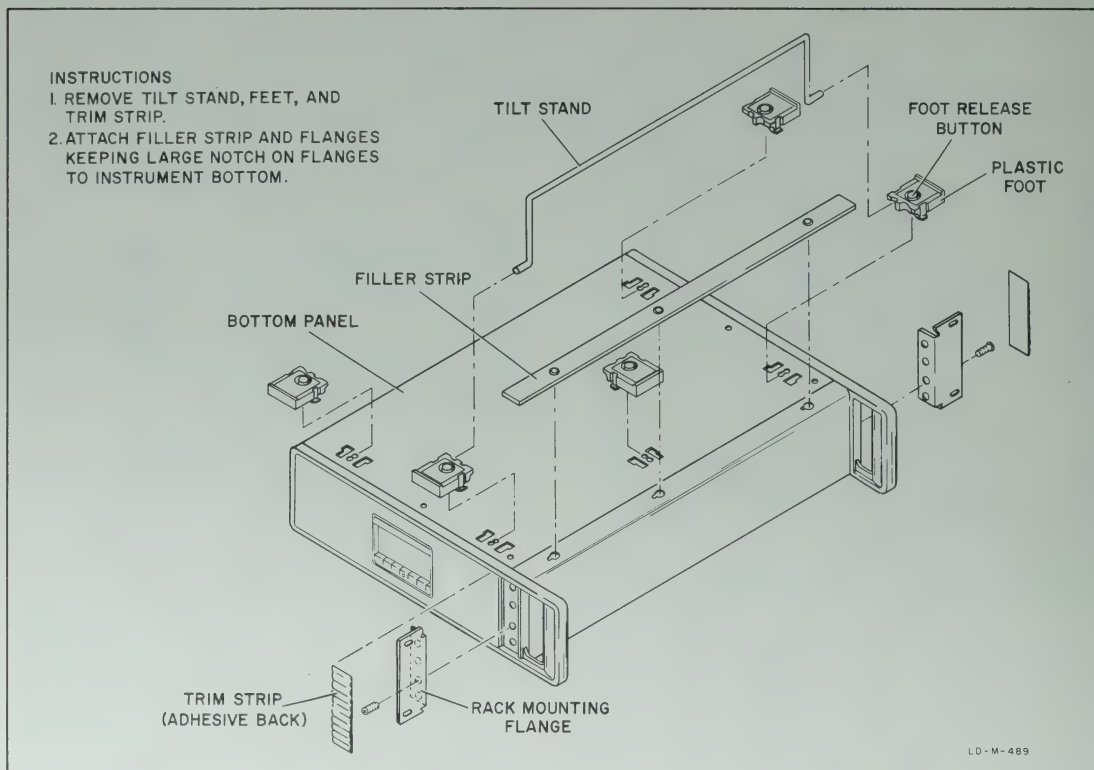

Figure 2-2. Rack Mounting
**2-12. RACK MOUNTING.** Prepare the cabinet for rack mounting as illustrated in figure 2-2. The trim strip and rack-mounting flanges are in the shipping container with the instrument. After preparation, lift instrument into place and secure mounting flanges to rack with appropriate screws. Allow adequate ventilation for the instrument in the rack.